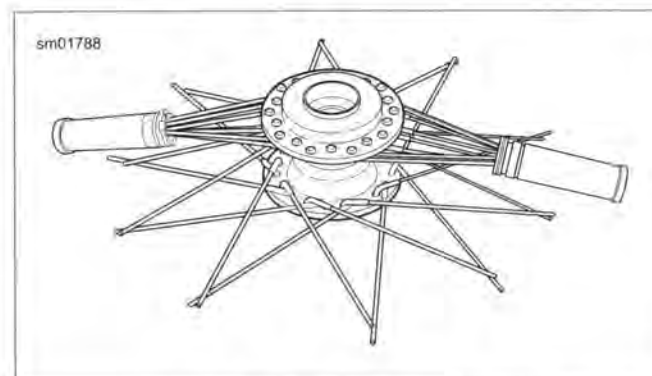

Figure 2-36. Bundling Top Spokes
7. See Figure 2-36. Group all spokes on the upper flange into two bundles of ten. Secure each group with throttle grips.